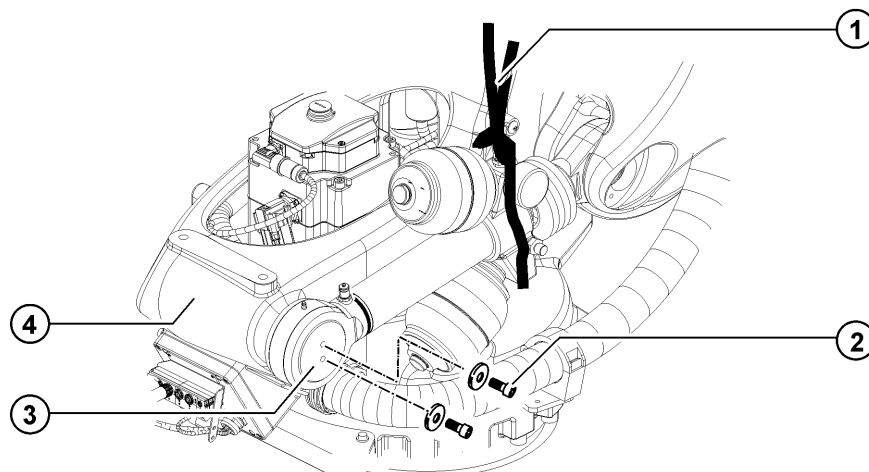

Fig. 11-32: Installing the counterbalancing system on a ceiling-mounted robot: rotating column
5. Lift the counterbalancing system with a rope sling and bring it to the site of installation (>>> Fig. 11-32).